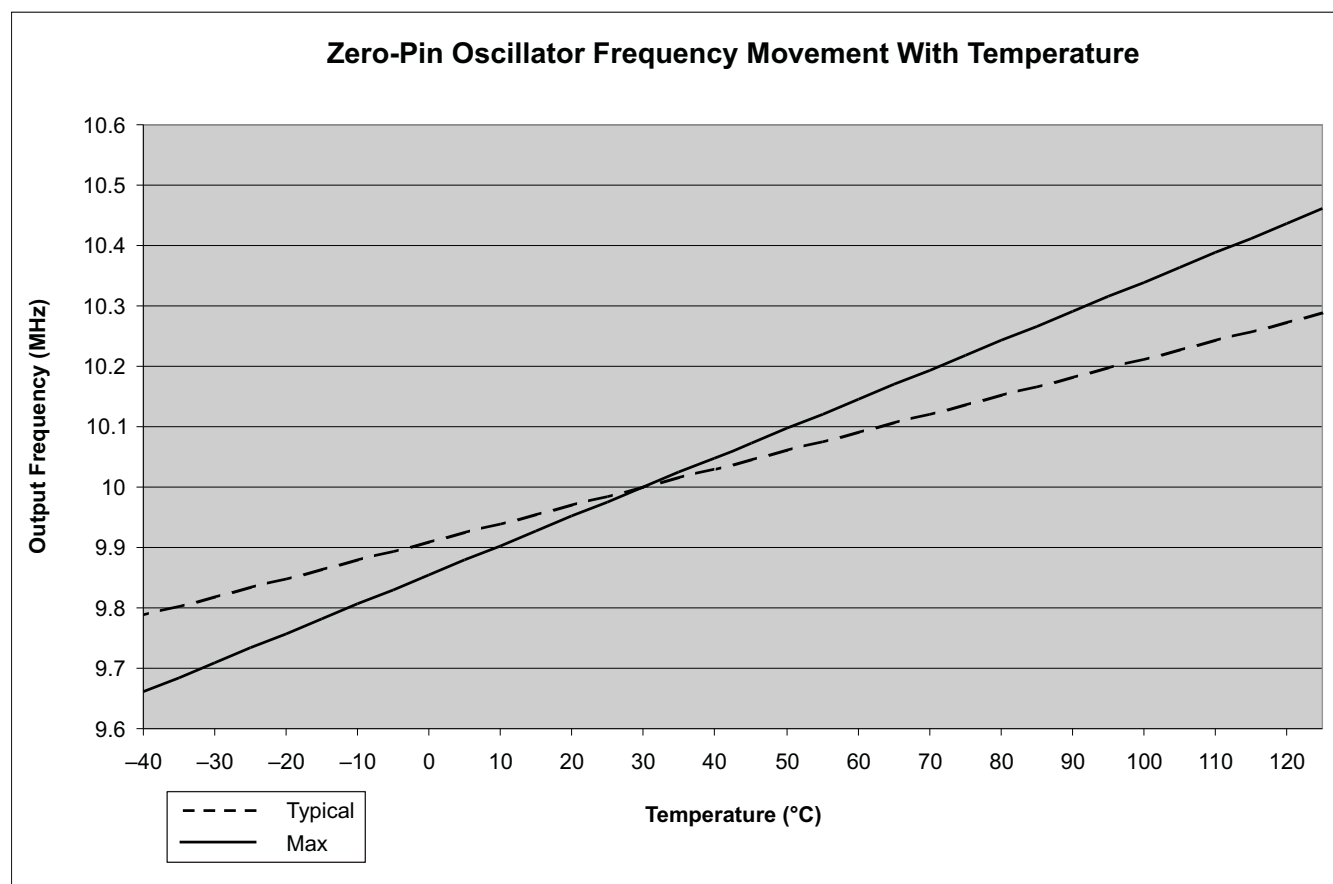

Figure 5-4. Zero-Pin Oscillator Frequency Movement With Temperature
- (1) In order to achieve better oscillator accuracy (10 MHz $\pm$ 1% or better) than shown, refer to the oscillator calibration example in 2802x C/C++ Header Files and Peripheral Examples (literature number SPRC832), and the Oscillator Compensation Guide Application Report (literature number SPRAB84). Refer to Figure 5-4 for TYP/MAX values.
- (2) Frequency range ensured only when VREG is enabled, VREGENZ = V_{SS}.
- (3) Output frequency of the internal oscillators follows the direction of both the temperature gradient and voltage (V_{DD}) gradient. For example: